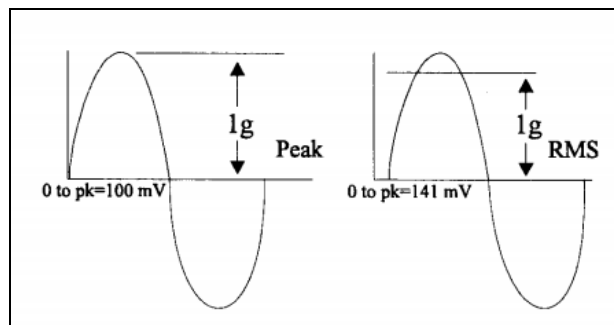

Figure 3: Peak vs RMS Selection with 100 mV/g Accelerometer
- **Peak/RMS Selection:** If a 100 mV/g sensor is on the shaker table, and the unit is in peak mode, then the output is 100 mV/g. If the switch is set to RMS, then the output is 141 mV (**See Figure 3**).